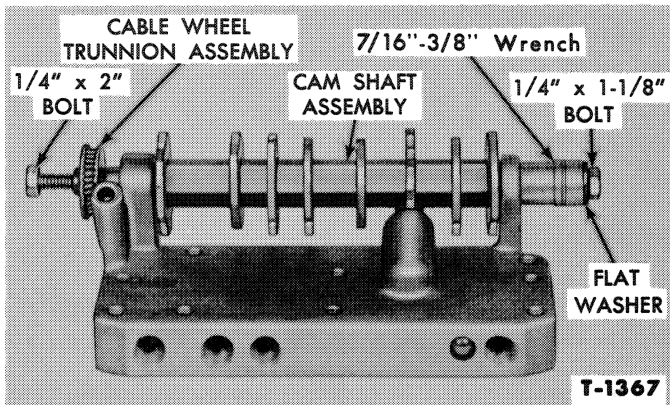

Figure 106—Removing the Cam Shaft Assembly
6. Remove the trunnion and cable wheel assembly from the right end of the camshaft by inserting a $\frac{1}{4}$ " x 2" standard thread set screw to force this assembly out of the shaft, as shown in Figure 106.
7. To remove the trunnion from the left end of the camshaft, insert a $\frac{1}{4}$ " x $1\frac{1}{8}$ " coarse thread, heat-treated bolt supported by a $\frac{7}{16}$ "- $\frac{3}{8}$ " drive, socket and flat washer, and withdraw the trunnion from the shaft, as shown in Figure 106.